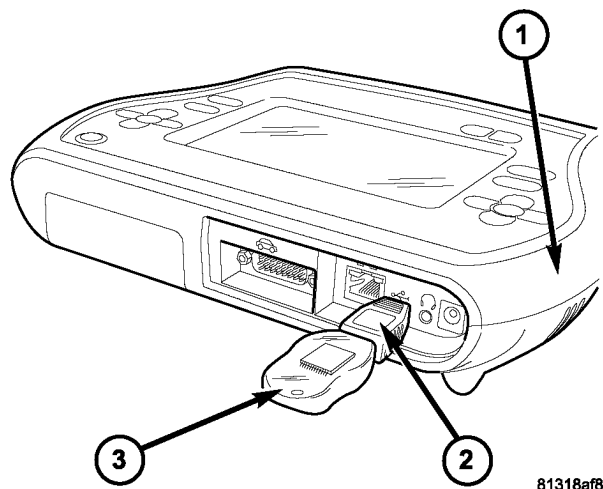

FIGURE 3 - USB KEY, GENDER CHANGER, AND StarSCAN TOOL
- 8. With the StarSCAN powered OFF, connect the USB Key and Gender Changer to the StarSCAN USB port (Figure 3).